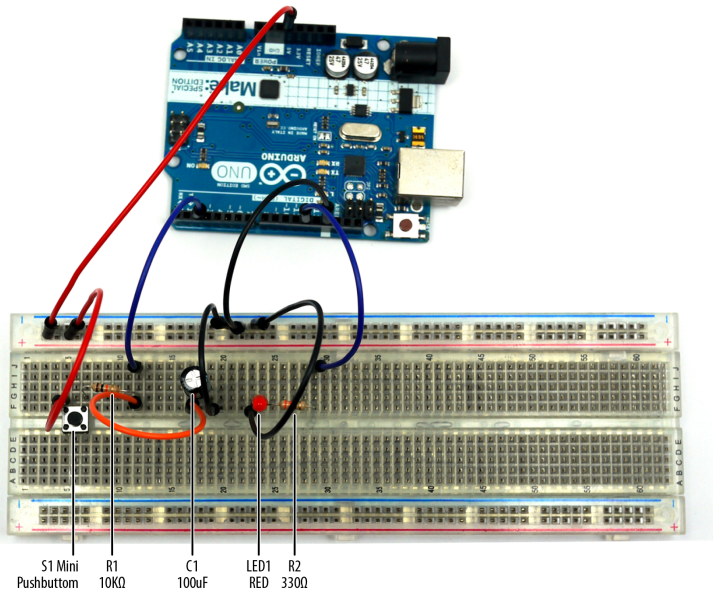
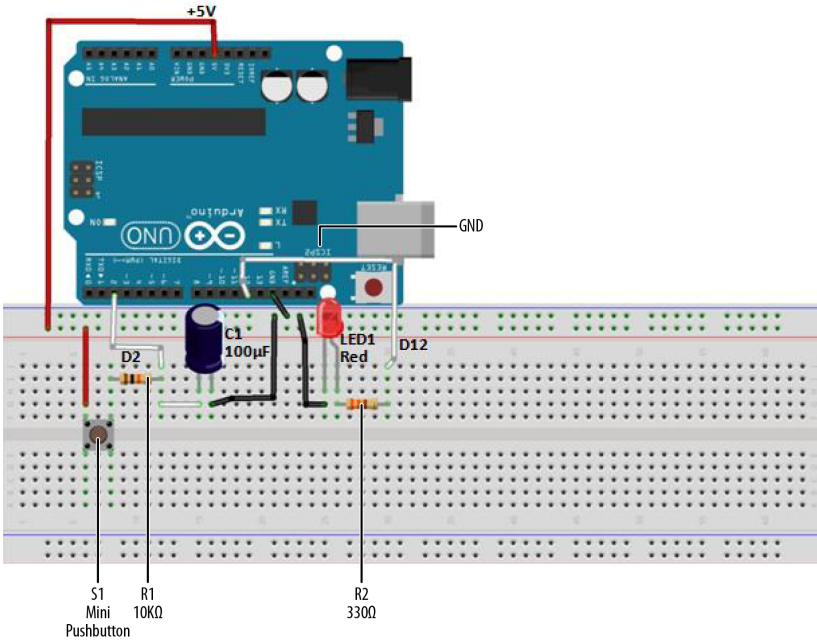

Figure 1-1. Trick Switch circuit built on a full-size clear breadboard (both the 100 μ F electrolytic capacitor and red LED negative pins are wired to ground)
Figure 1-2. Trick Switch Fritzing diagram
In electronics, sometimes we want to keep a device on for a certain amount of time even when an electrical switch is turned off. Ordinary pushbuttons used to turn electronic devices on and off can easily be operated by a timed delay switch. How awesome would it be to create such a device to delay turning off a simple LED? Such a gadget could be used to trick your friends, family, or even the local Makerspace when they see the LED staying on after the pushbutton has been released. With a few electronic components, you can make an LED (light-emitting diode) stay on for a few extra seconds when a pushbutton switch is turned off. Figure 1-1 shows an assembled Trick Switch. The electronic components required to build the Trick Switch are shown in the Parts List.
When you press the pushbutton switch on this device, the LED turns on. The capacitor will begin storing electrical energy from the +5VDC power supply circuit of the Arduino. Releasing the pushbutton switch cuts off the flow of electricity from the source, but the energy stored in the capacitor keeps the Arduino running for a few extra seconds. The Arduino keeps the LED lit until the capacitor's stored energy is empty. You can build the Trick Switch using the electronic components from the Parts List and the Fritzing wiring diagram shown in Figure 1-2. Here are the steps required to build the electronic device:
2. Wire the electronic parts using the Fritzing wiring diagram of Figure 1-2 or the actual Trick Switch device shown in Figure 1-1.